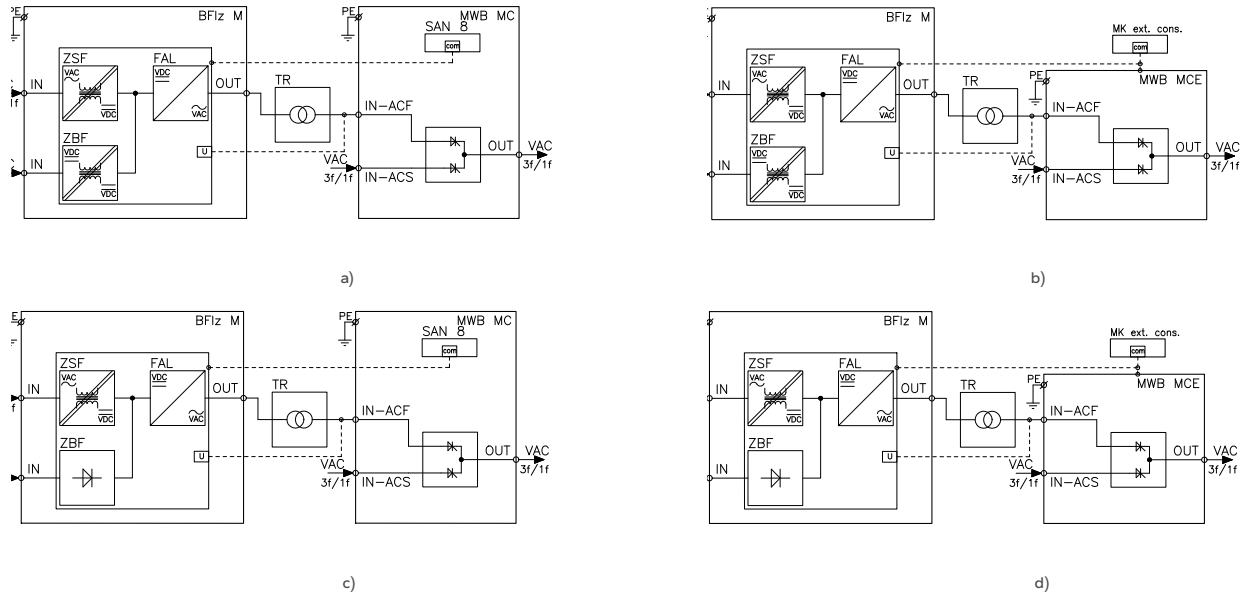
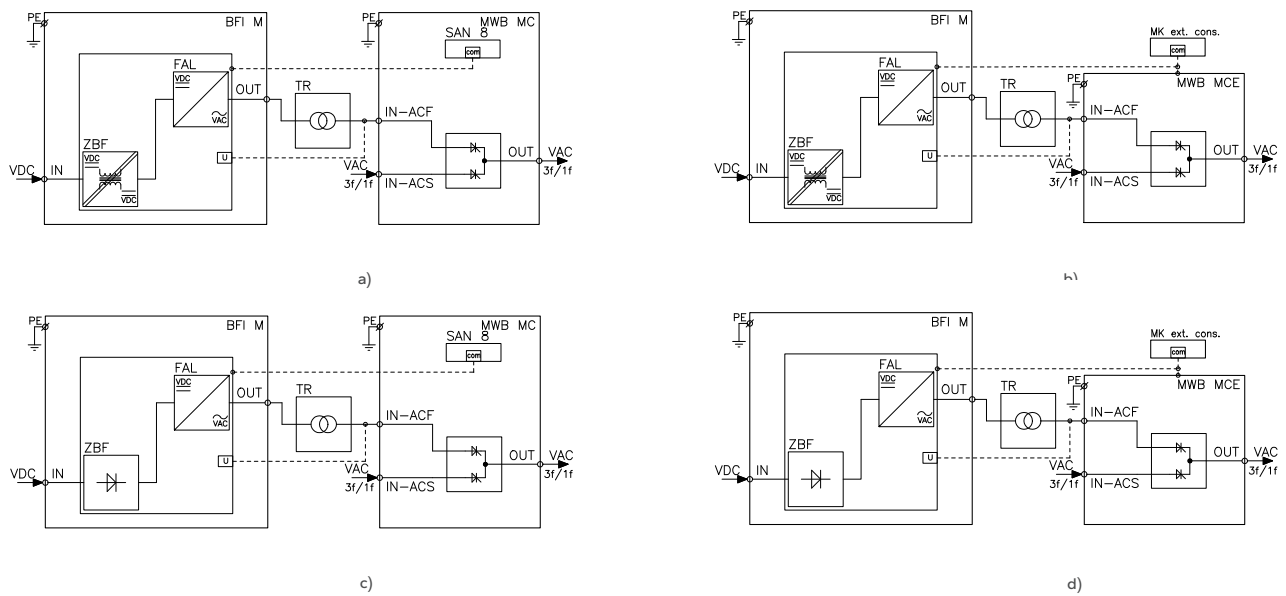

Fig. 52. Block diagram of the BFIz type inverter module with a power supply unit and the MWB module. Possible configurations:
Fig. 53. Block diagram of the BFI type inverter module with the MWB module. Possible configurations:
The BFlz inverter module is supplied by voltage of the basic AC network and DC battery voltage (Fig. 52), while the BFI inverter module is supplied only by DC voltage (Fig. 53). The MWB module is supplied by voltage of the AC reserve network, as well as the inverter's output voltage adapted to the client's requirements by the transformer. This transformer provided isolation from supply voltage, and constitutes an ideal protection against penetration of the constant component to the loads in the case of a failure of the inverter. By standard, the MWB module is equipped with the SAN 8 inverter operating parameters control system. The MWB modules with a built-in console belong to the MC modules family, while the modules with an external MK console are a part of the MCE modules family. The BFlz / BFI modules without a controller belong to the M modules family.
The system including a diode on the battery power supply circuit instead of a battery converter (Fig. 52 c, d, and Fig. 53 c, d) is characterised by a greater reliability due to a lack of processing on the DC circuit.
### SERIES TYPE: 1-PHASE INVERTER MODULES 1 ÷ 10kVA FOR AUTONOMOUS OPERATION IN COOPERATION WITH 1-PHASE TRANSFORMER 230 V / 230 V 50 Hz – AS PER FIG. 52 A, B, AND FIG. 53 A, B
**SERIES TYPE: 1-PHASE INVERTER MODULES 1 ÷ 10kVA FOR AUTONOMOUS OPERATION IN COOPERATION WITH 1-PHASE TRANSFORMER 115 V / 230 V 50 Hz – AS PER FIG. 52 C, D, AND FIG. 53 C, D**
**SERIES TYPE: 3-PHASE INVERTER MODULES 1 ÷ 10kVA FOR AUTONOMOUS OPERATION IN COOPERATION WITH 3-PHASE TRANSFORMER 3×240 V / 3×400 V 50 Hz – AS PER FIG. 52 A, B, AND FIG. 53 A, B**
**SERIES TYPE: 3-PHASE INVERTER MODULES 1 ÷ 10kVA FOR AUTONOMOUS OPERATION IN COOPERATION WITH 3-PHASE TRANSFORMER 3×110 V / 3×400 V 50 Hz – AS PER FIG. 52 C, D, AND FIG. 53 C, D**